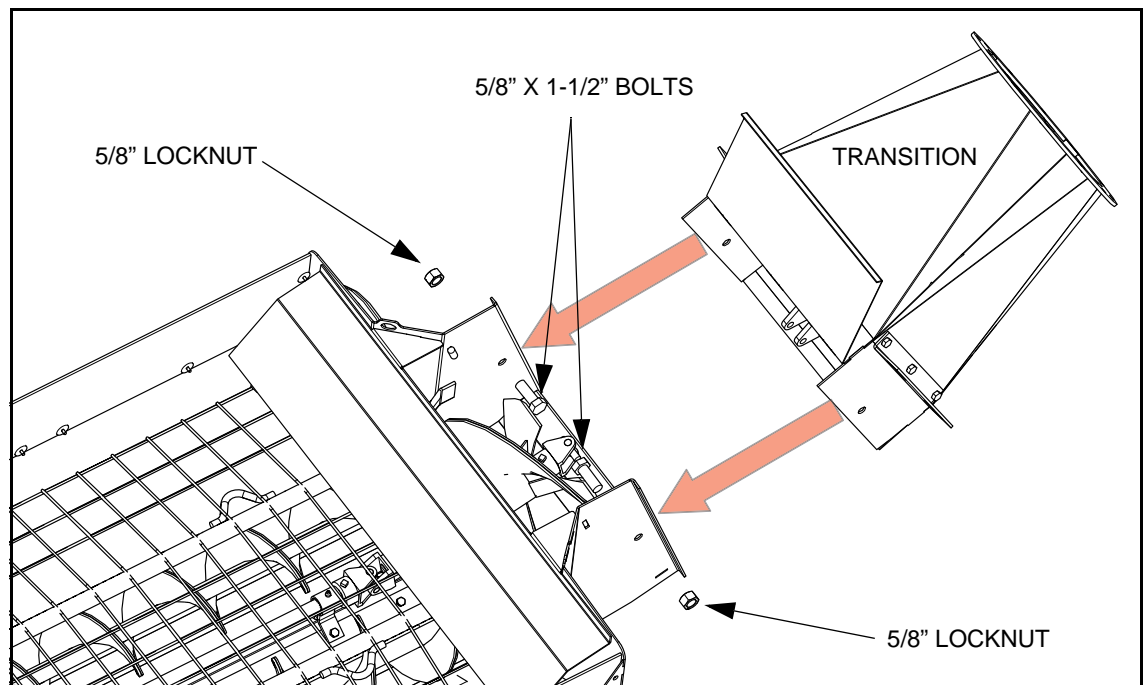

Figure 3.33 Installing the Transition
1. Attach the transition to the intake hopper with two 5/8" x 1-1/2" bolts and 5/8" locknuts (19600). **DO NOT** over-tighten; tighten to a slightly loose fit only as these bolts act as pivot points (Figure 3.33).